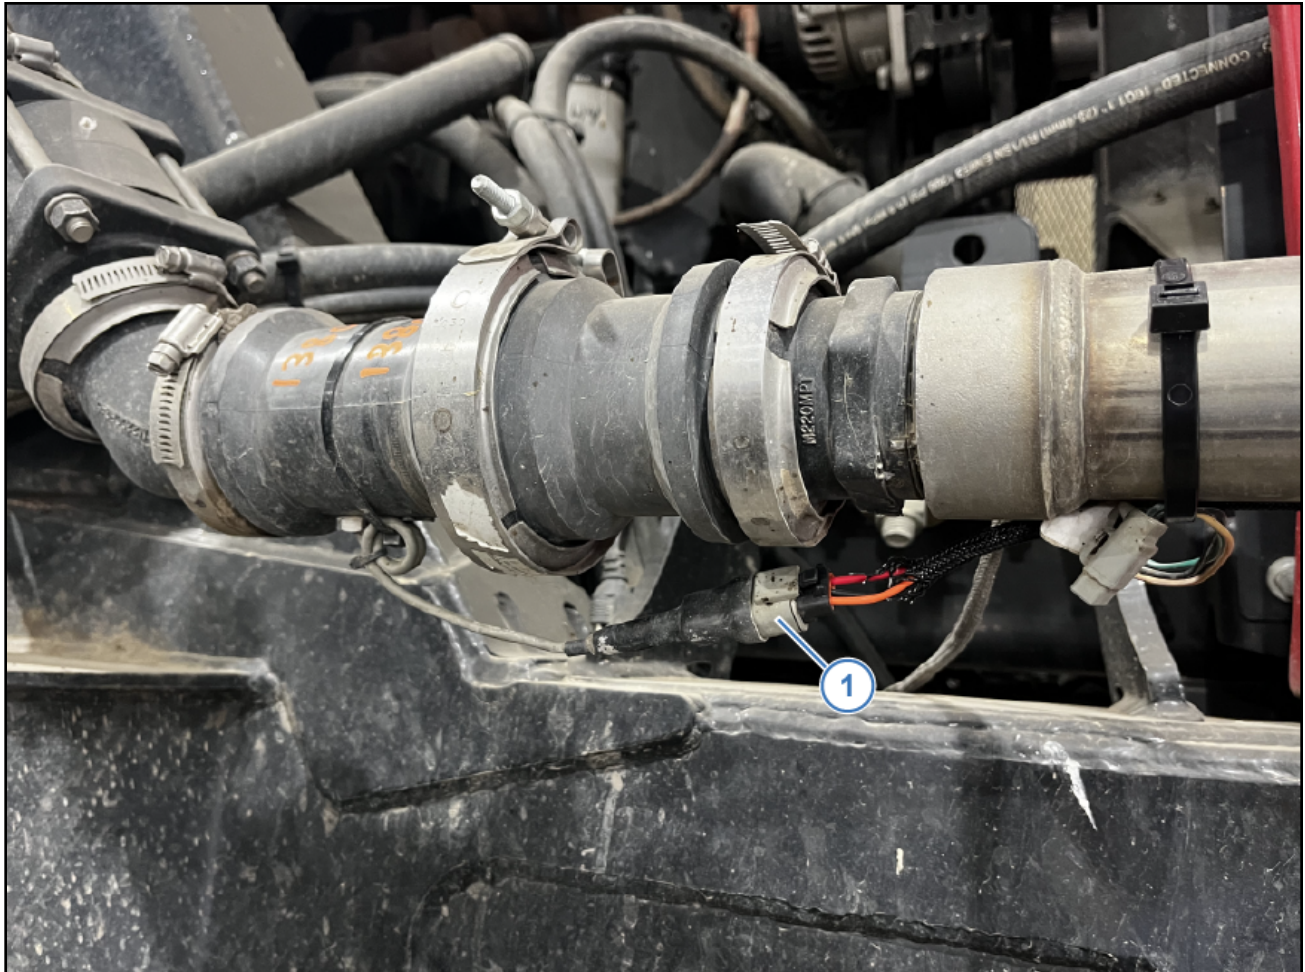

Figure 9: Flowmeter Harness
17. Disconnect the existing machine harness from the flowmeter and connect the Chassis Harness connector (Figure 9, Item 1).